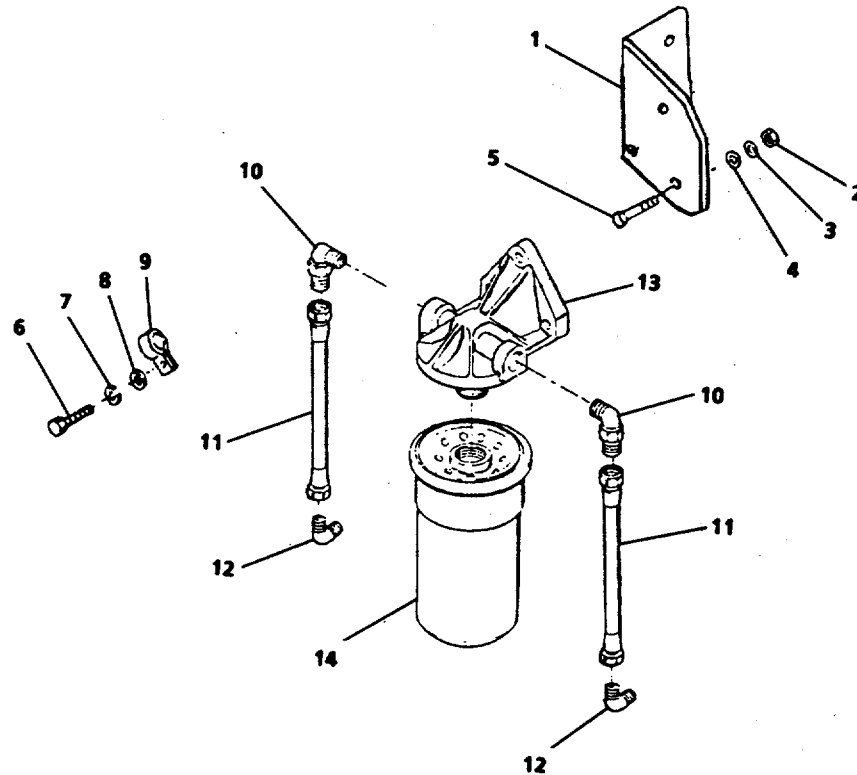

FIGURE 2-24. Lubricating Oil Bypass Filter Group.
- a. Inspect hoses (11, FIGURE 2-24) for cracks, holes, secure attachment of hose ends and damaged (stripped, crossed) threads in hose ends.
- b. Inspect fluid filter element (14) for holes, dents, clogging and leaks in sealing gasket.